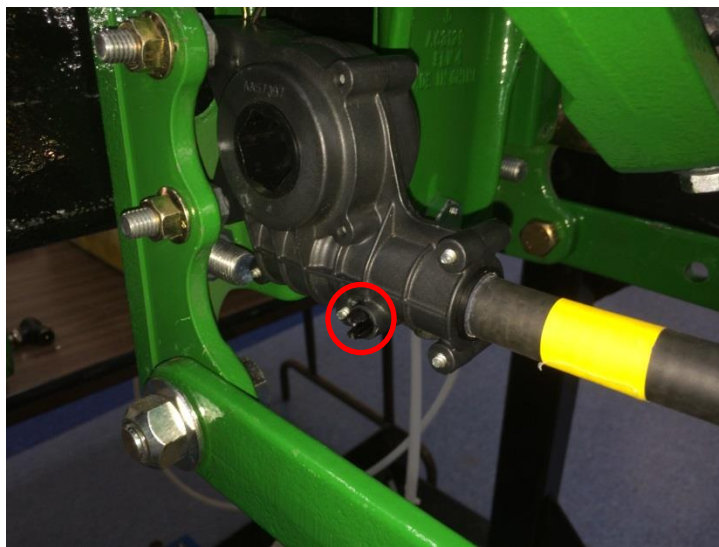

Figure 2, Remove the Black Pin in the Hex Bar Gear Box
- Once the planter is set to the planting position, remove the black pin that holds the cable drive shaft into the hex bar gear box (see Figure 2).